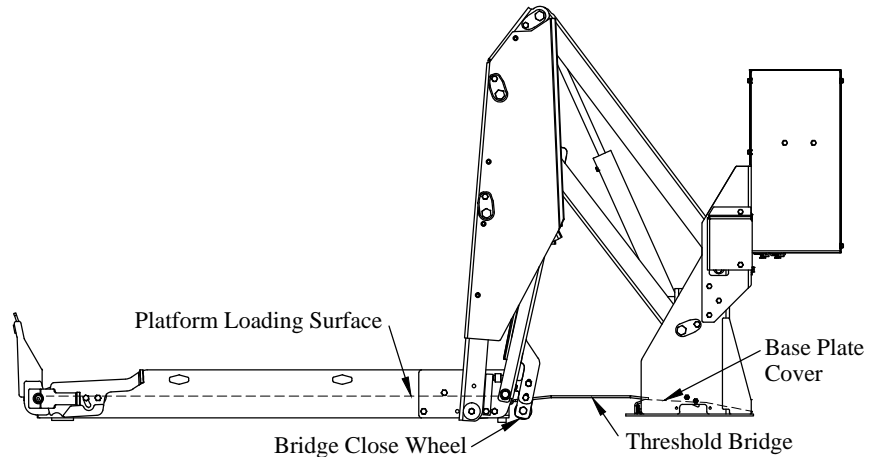

Figure 23: Platform and threshold bridge.
3. **Check** if the platform loading surface is even with base plate cover (Figure 23).
4. **Position** the platform so that it is even with the top of the base plate cover (Figure 23).
1. **Raise** the platform as high as it will go with just the pendant toggle (Figure 23).
3. **Adjust** each bridge close wheel so that it is tight against the bottom of the threshold bridge (Figure 23).